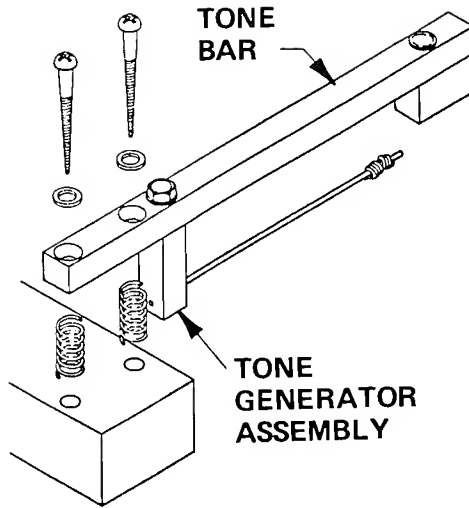
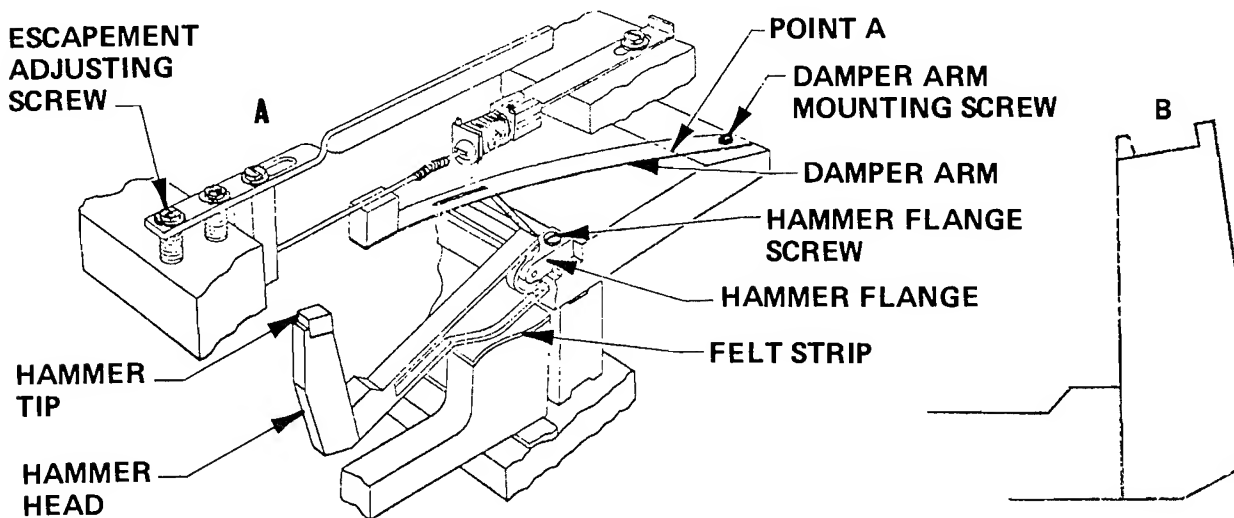

Figure 7-2. RHODES Second Stage Tone Bar Assembly
Figure 8-4. RHODES Fourth Stage Action Design
2. In the next stage the Assembly was constructed as shown in Figure 7-2. Several improvements were accomplished by this change.
- a. The Tone Generator Assembly (Figure 7-2) was now removeable for easy replacement.
While this type of Head was retained for awhile, another innovation followed soon (Figure 8-4). It consisted of a wooden Head with a Felt Tip, which was easily removed for replacement. This was a major step forward in that replacement could be done inexpensively by the musician.
2. Suppose you have a Piano of the vintage depicted in Figure 8-4 but with the type Tone Bars as shown in Figure 7-2, and you wish to restore it. Proceed as follows: